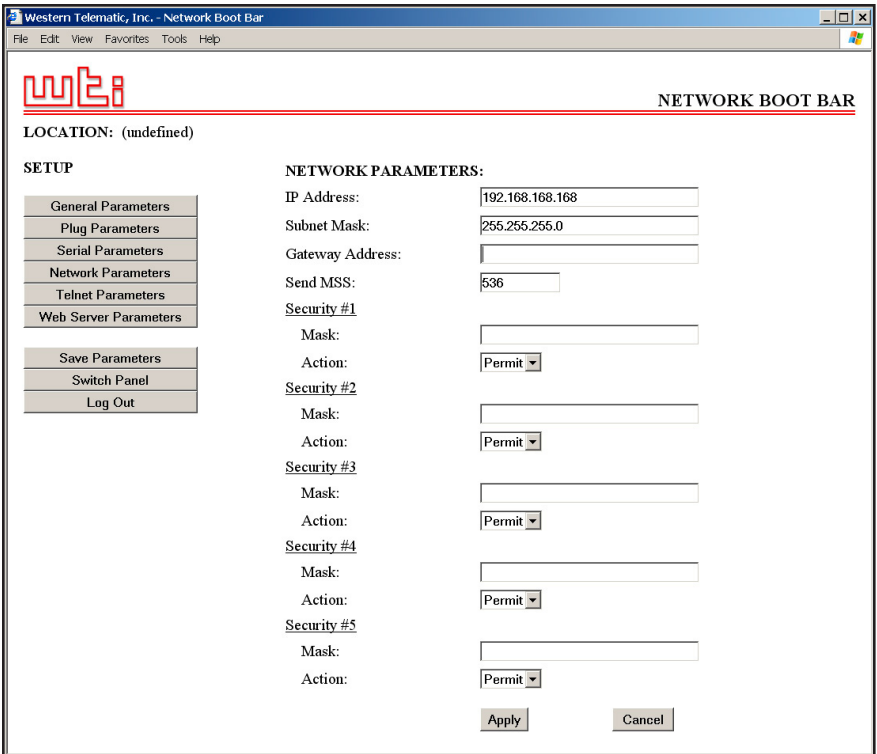

Figure 5.9: Network Parameters - Web Browser Interface
- **Web Browser Interface:** Click the "Setup" button to access the Setup Menus, and then click the "Network Parameters" button. The Web Parameters Menu will be displayed as shown in Figure 5.9.
- a) **Web Browser Interface:** The IP Security feature is configured using the fields at the bottom of the Network Parameters Menu as shown in Figure 5.9.